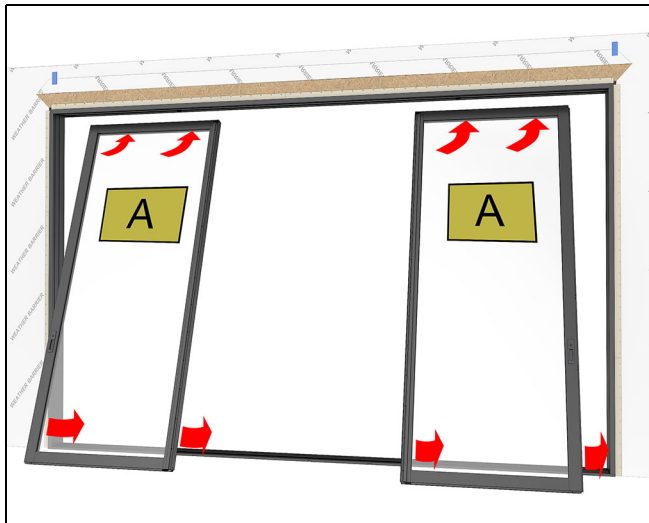

Figure 147
1. Install the (A) primary panels on the interior track. See Figure 147.